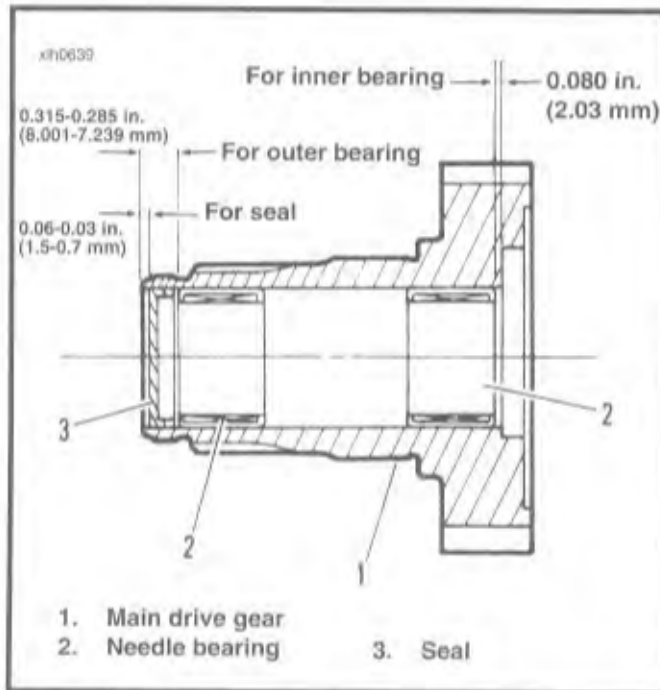
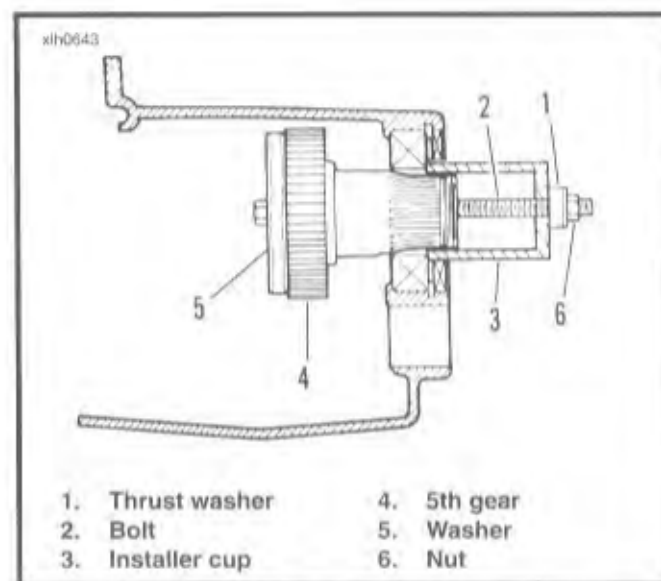

Figure 6-43. Main Drive Gear Assembly
Figure 6-47. Main Drive Gear Installation
2. See Figure 6-43. From inside case tap out seal (3) at end of mainshaft 5th gear (1). Discard seal (3).
2. Use Main Drive Gear Remover and Installer Tool. See Figure 6-47. Take bolt (2) and place washer (5) followed by main drive gear (4) over end of bolt. From inside of case insert bolt and main drive gear through inner race of ball bearing.
3. Insert threaded end of bolt (2) through installer cup (3) and thrust washer (1). Thread nut (6) onto end of bolt (2). Tighten nut (6) until shoulder on gear (4) bottoms against inner race of bearing.
4. See Figure 6-43, Tap in new seal (3) at threaded end of 5th gear.